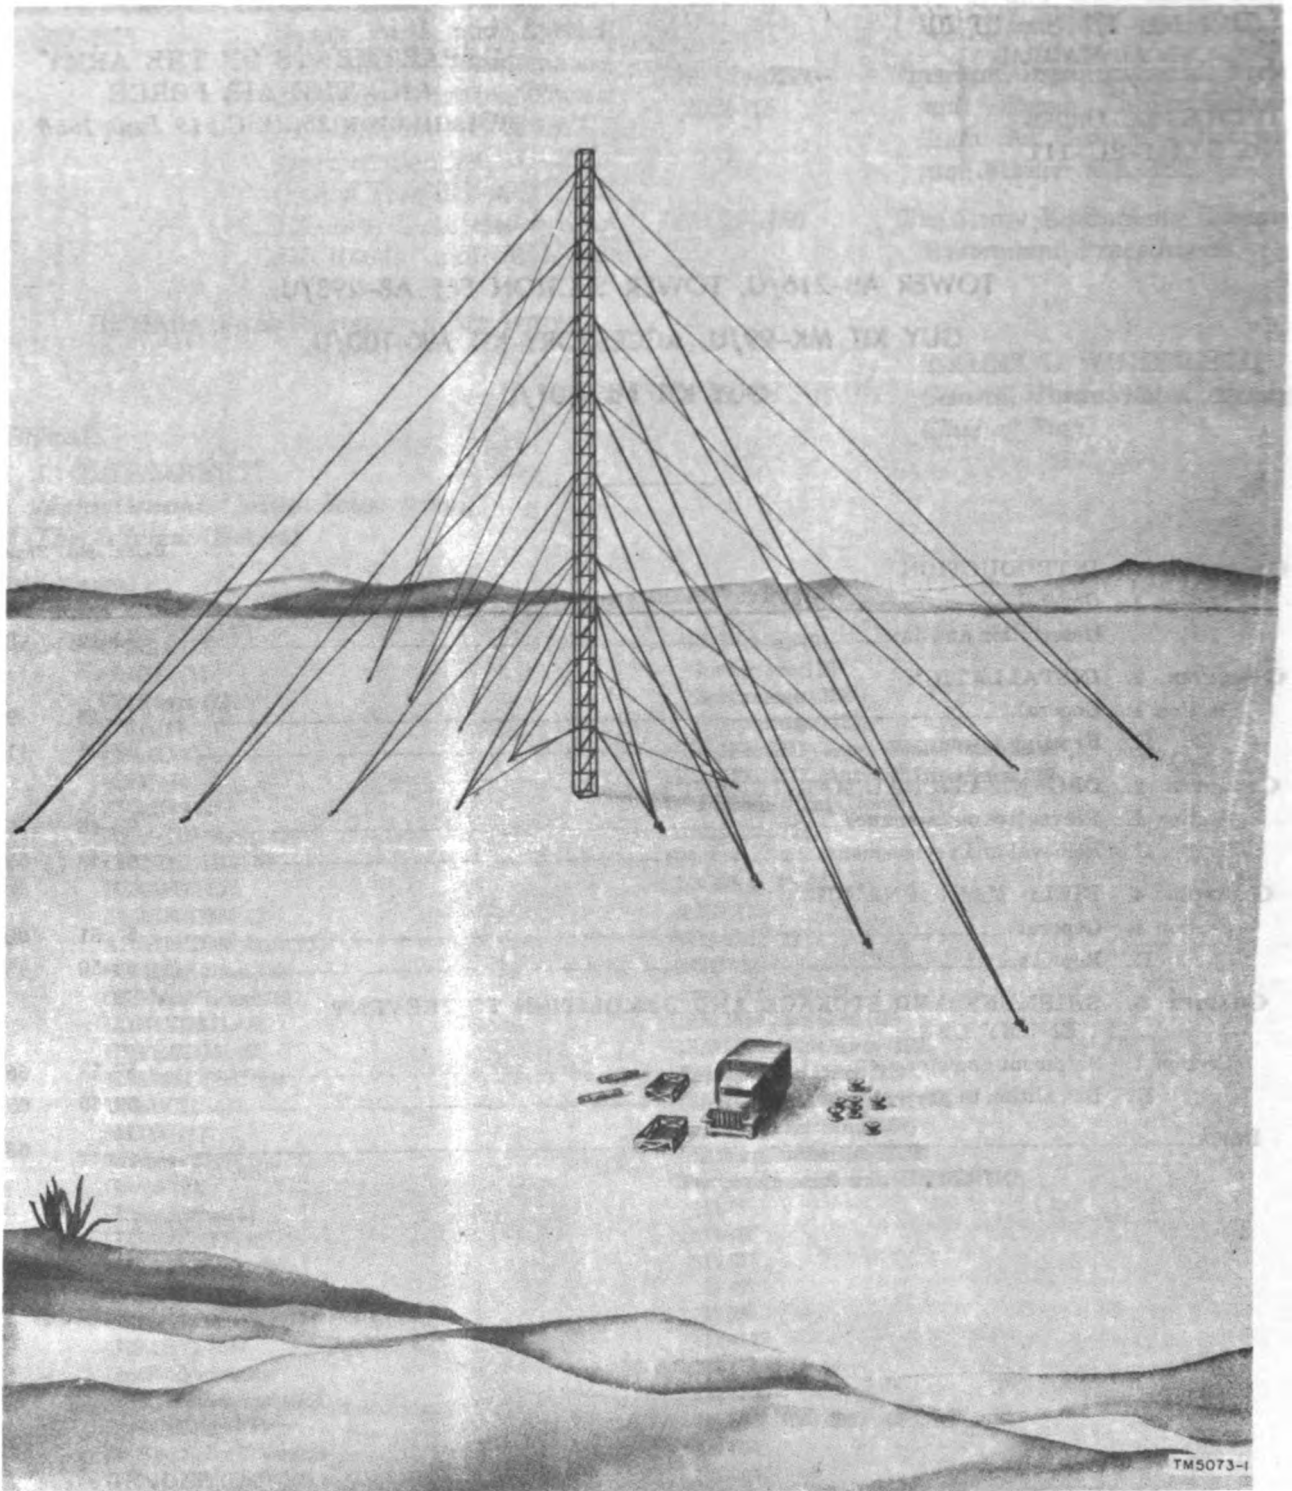

Figure 1. Tower AB-216/U, three Tower Section Sets AB-298/U, Guy Kit MK-99/U, Accessory Kit MK-100/U, and Guy Kit MK-101/U in use.
a. This manual contains information on the description, installation, maintenance and repair of Tower AB-216/U, Tower Section Set AB-298/U, Guy Kit MK-99/U, Accessory Kit MK-100/U, and Guy Kit MK-101/U (fig. 1).